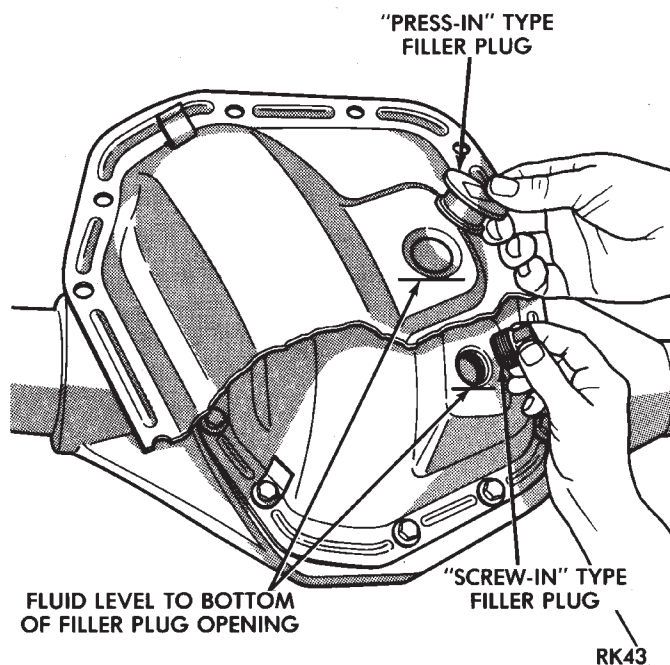

Fig. 5 Axle Fill Plug Location—Typical
(1) Raise vehicle with an axle or wheel type hoist. Support vehicle.
(2) The rear axle differential housings have a rubber, PRESS-IN type fill plug (Fig. 5). Pry fill plug from differential housing. The front axle (4WD ve-
hicles) differential housings have a threaded-type fill plug (Fig. 5). Remove fill plug from differential housing.
(3) The lubricant level should be within 12 mm (1/2 in) of fill hole.
(4) If necessary, add lubricant.
(5) Install fill hole plug in differential housing (Fig. 5).